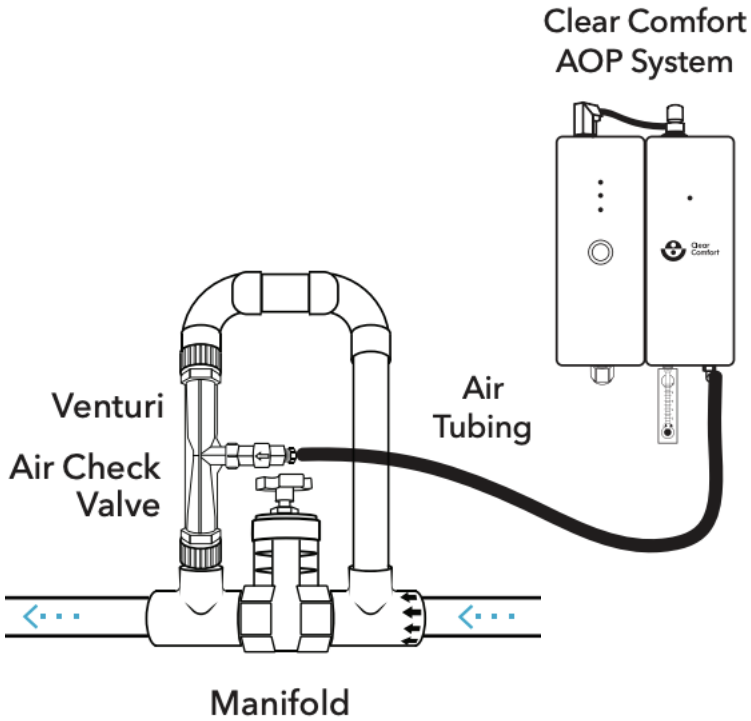

Figure 10: Manifold Venturi Connection
1. Run provided 1/4-inch tubing from the Manifold injection barb to the L-barb fitting on bottom of Cartridge Unit's fitting. Length of tube should be less than 10 feet. Shorten and cut tubing as possible. See Figure 10.